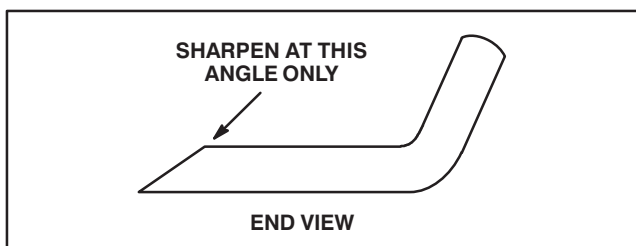

Figure 30
5. Inspect cutting edges of all blades. Sharpen the cutting edges if they are dull or nicked. Sharpen only the top of the cutting edge and maintain the original cutting angle for best performance (Fig. 30). Make sure blade is balanced after sharpening.